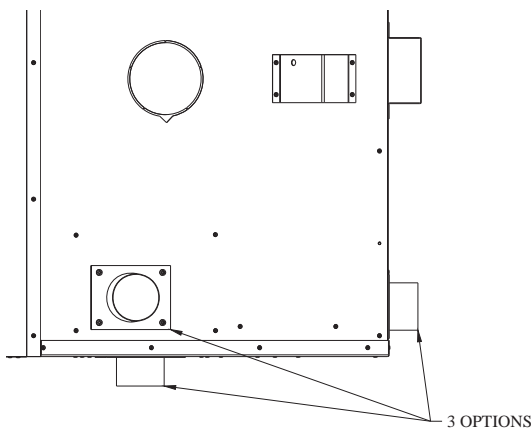
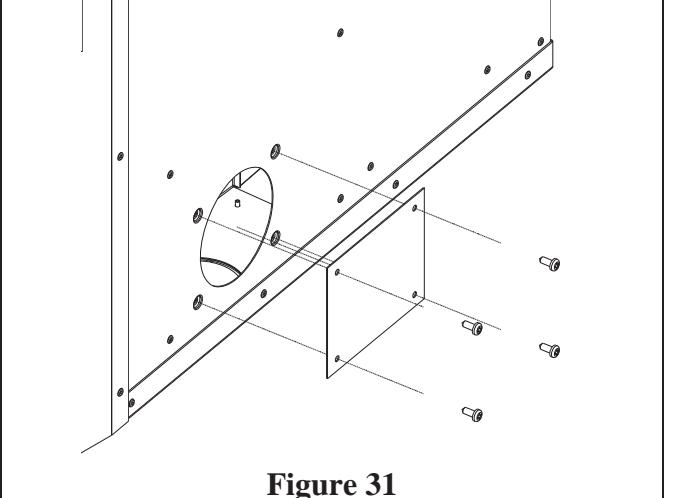

Figure 30
Figure 31
- 3) Select which air inlet you wish to use figure 30 (you may use more than one) and either remove the cover figure 31 (side inlet) or remove the knock-out (bottom and rear inlets).